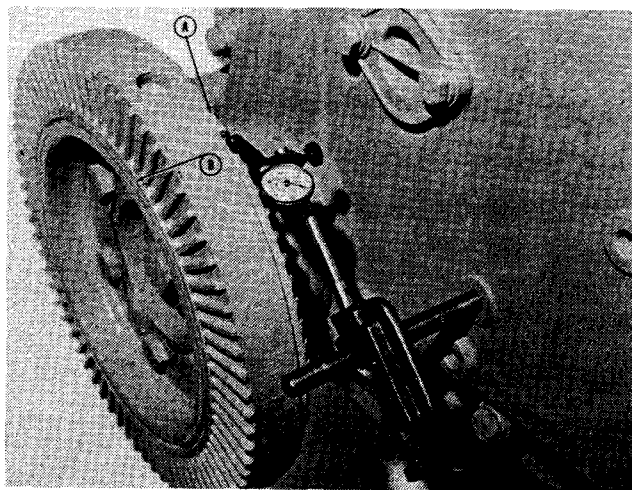

Fig. 14-38, (N114140). Checking vibration damper run-out
5. Position a dial gauge to gear case cover and rest arm on outer machined surface at point (A, Fig. 14-38) to check eccentricity and at point (B) on inner machined surface of outer member to check wobble. Run-out must not exceed 0.0025 inch [0.064 mm] per one (1) inch radius of damper (as measured from center of damper). Crankshaft must be kept at front or rear limit of thrust clearance while wobble is being checked.